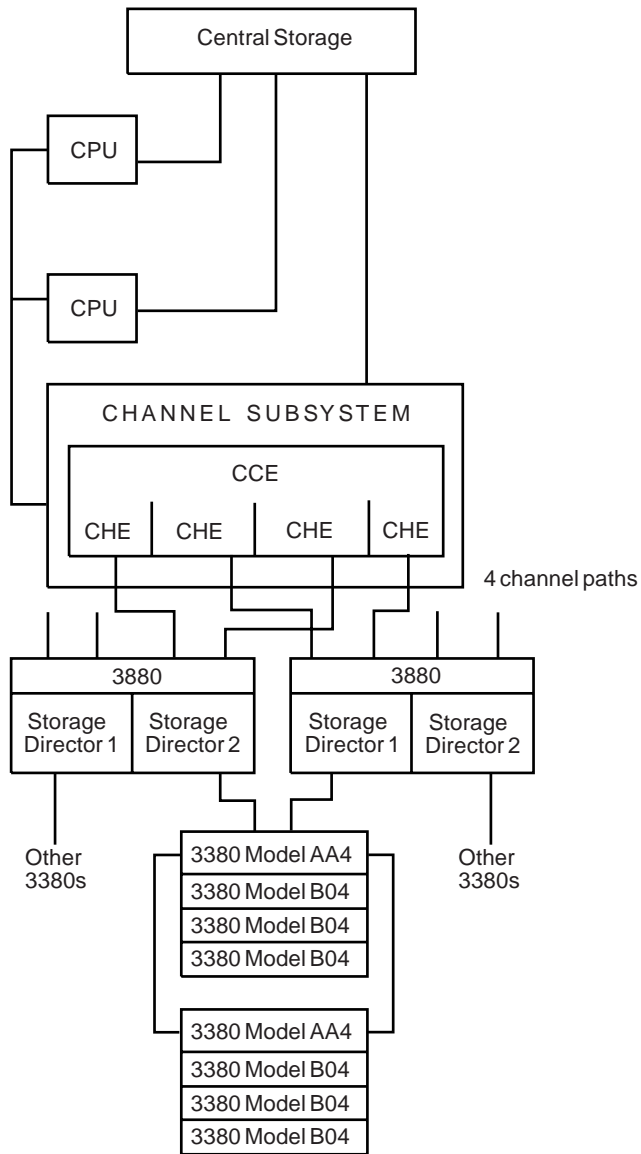

Figure 12-3. DASD Configuration for Maximum Availability with a 3090 Complex
- Figure 12-3 on page 12-4: DASD